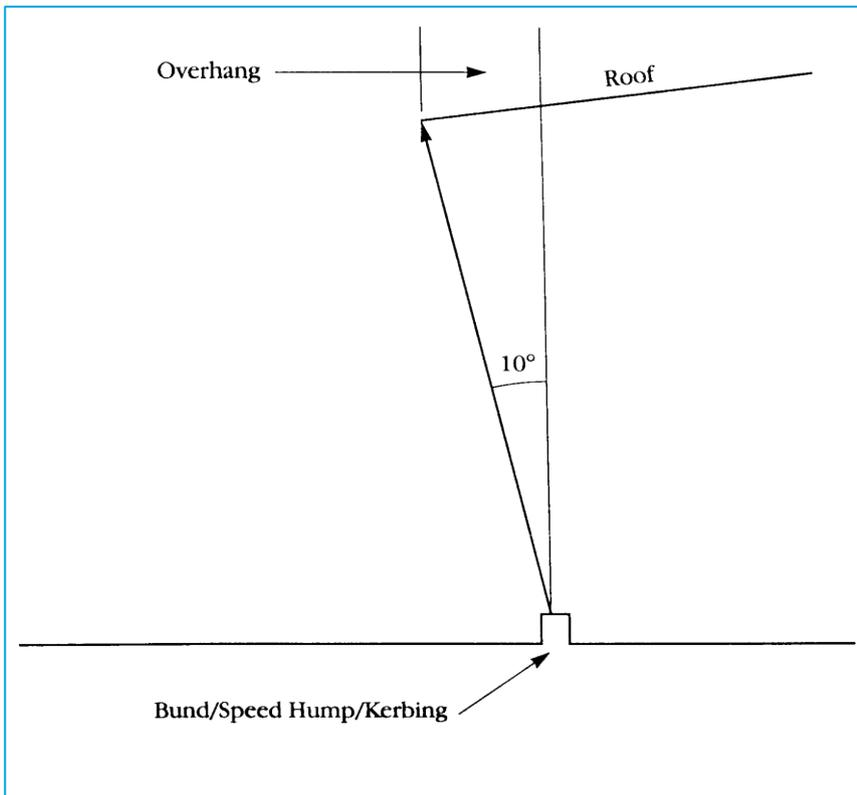

Figure 1. Roofing of trade waste areas
- The roof overhang must be at a minimum 10 degrees from the vertical where one or more sides are open to the weather (this is not to imply that the roofing must be slanted at 10 degrees to horizontal) (see Figure 1 below). In all cases the design must prevent runoff from any storm with an intensity of up to a 10-year Average Recurrence Interval (ARI) from entering the sewer. Where the stormwater catchment threatening the area with inundation is greater than 100 square metres, a certificate from a registered engineer, to verify the design's capability, must be provided. It is important that the stormwater drains remain free from debris and/or other obstructions that would restrict or block the flow of stormwater.
Roof	Where one or more sides are open to the weather the roof overhang must not be less than 10 degrees from the vertical, see Figure 1, below.